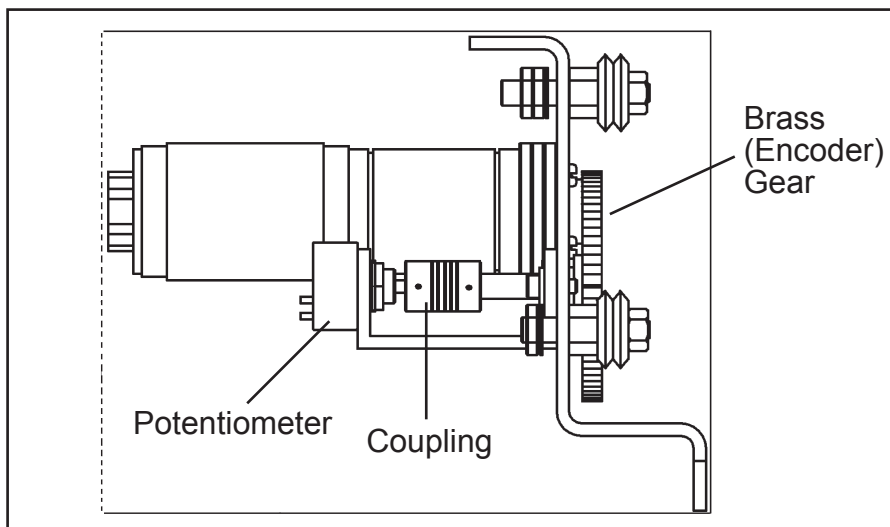

Figure 8: Simplified side view of machine with right cover (BUG-5708) removed.
5. Loosen only the set screw on the gear side of the coupling between the potentiometer and the brass gear. Refer to figure 8.